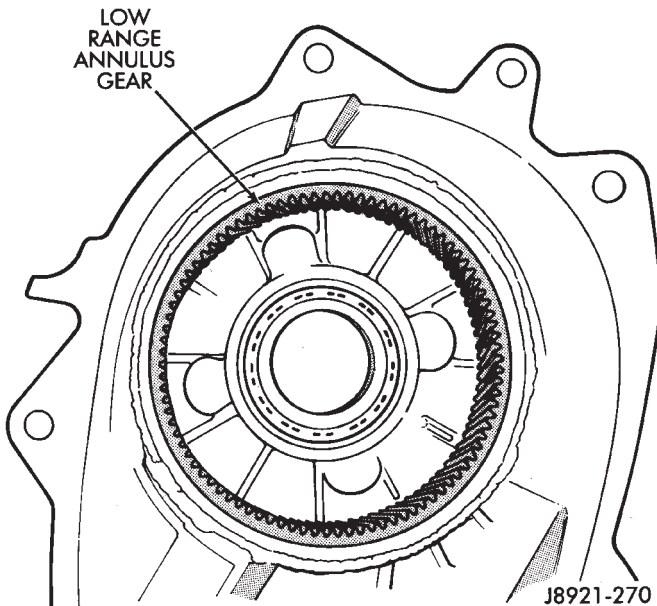

Fig. 32 Inspecting Low Range Annulus Gear
(45) Inspect low range annulus gear (Fig. 32). Gear is not a serviceable component. If damaged, replace gear and front case as assembly.